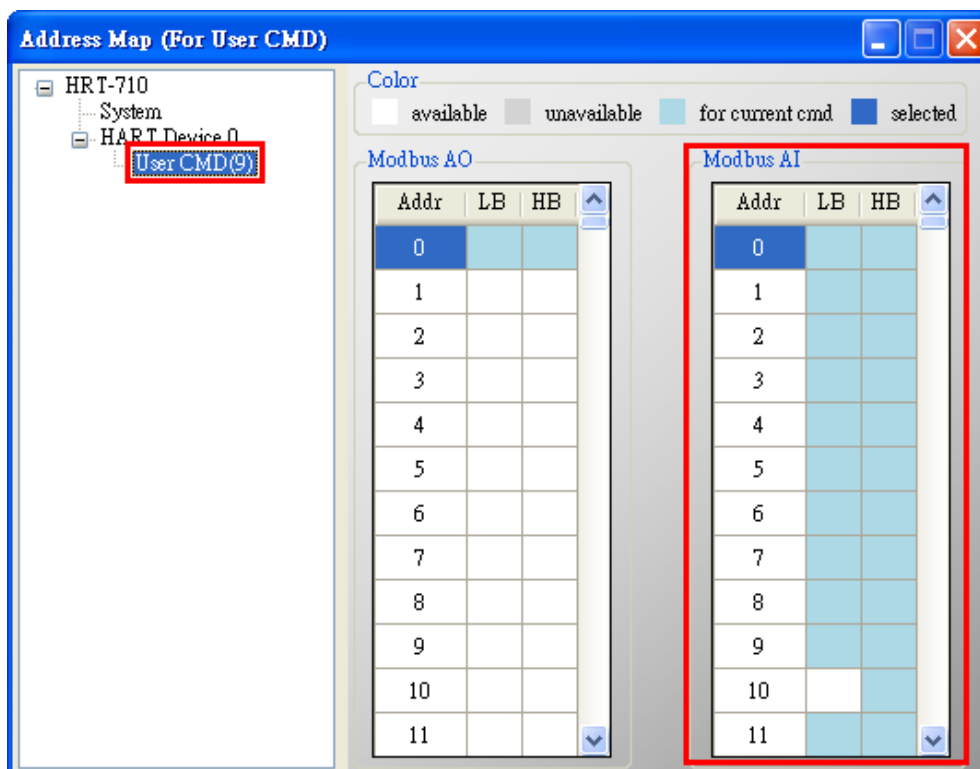

Figure 30-9
<1> In the “**Address Map**” screen, click the “**UserCMD(9)**” item. In the “**Modbus AI**” area, the blue grid will be the address of the received data of UserCMD(9) like Figure 30-9. In the example, it needs 23 bytes (response code (2B) + response data (21B)) for HART command 9. Therefore, it will occupy 12 modbus address from 0 to 11.